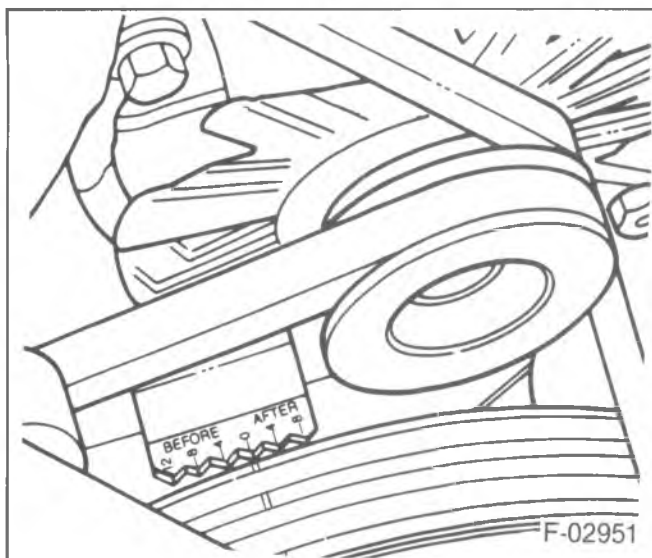

Figure 52—Timing Mark
5. Start the engine and aim the timing light at the timing mark (figure 52). The line on the balancer or pulley will line up at the timing mark. If a change is necessary, loosen the distributor hold-down clamp bolt at the base of the distributor. While observing the mark with the timing light, slowly rotate the distributor until the line indicates the correct timing. Tighten the hold-down bolt, and re-check the timing.